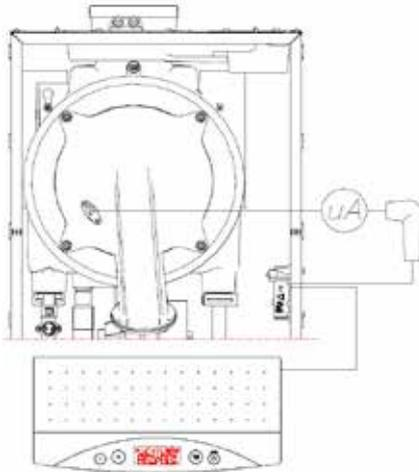

Fig. 6.1.7.1 Wiring diagram for ionisation current measurement
- connect an ammeter (µA range) according to the illustration in Fig. 6.1.7.1